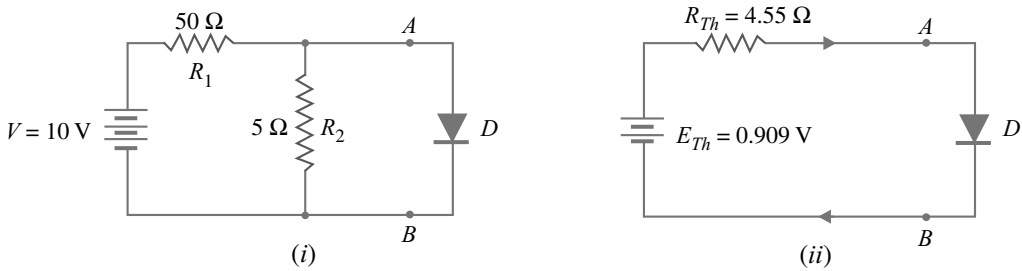

Fig. 4.15
**Example 4.13.** Find the current through the diode in the circuit shown in Fig. 4.15 (i). Assume the diode to be ideal.
**Solution.** We shall use Thevenin's theorem to find current in the diode. Referring to Fig. 4.15(i),